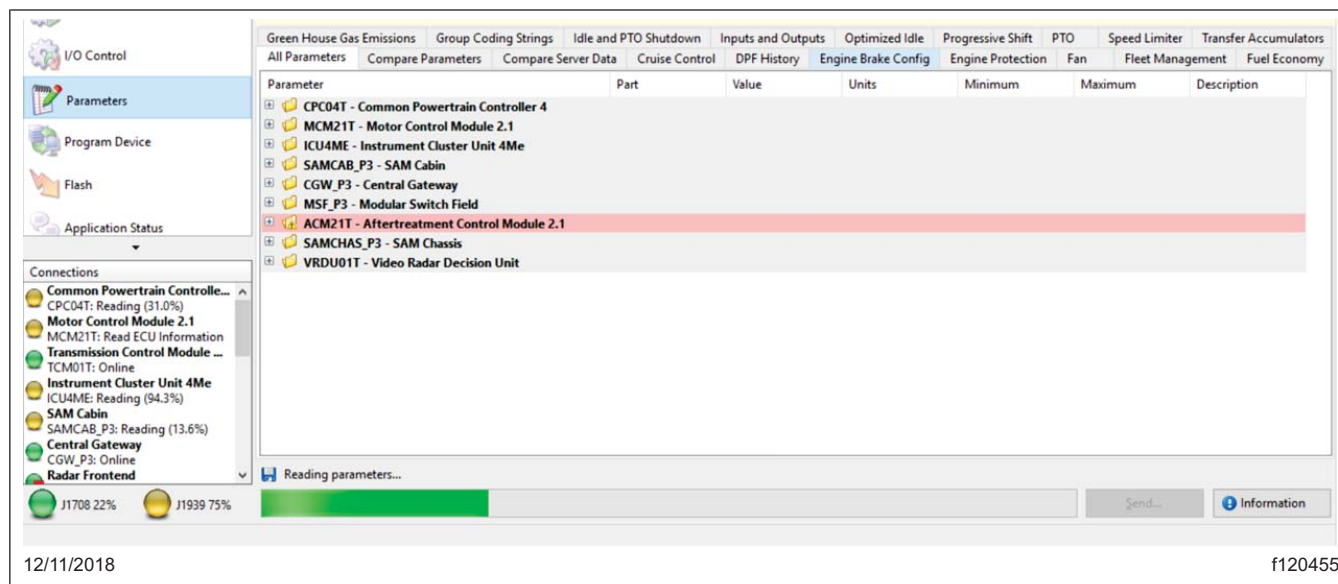

Fig. 17, Reading Vehicle Parameters on DiagnosticLink
3. Once all controllers are connected, read the vehicle parameters. See Fig. 17.
4. Once all controllers are connected, click the "Parameters" icon on the left hand side of the screen to read the vehicle parameters. See Fig. 17.